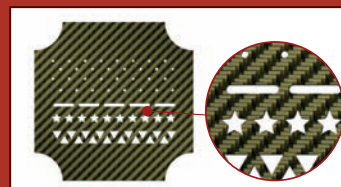

Fig. 6
- Any number, size or shaped hole or feature (including cutouts) are produced at the same time (Fig. 6).